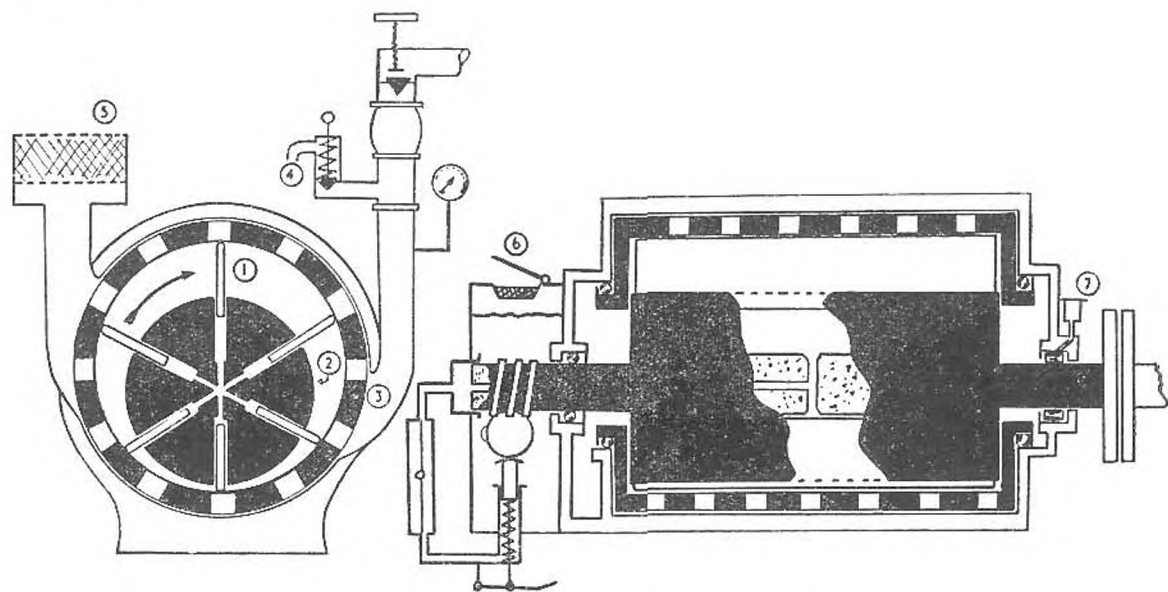

Fig. 22. L.P. blower—method of air blowing and lubrication
L.P. BLOWER (Refer to *Fig. 22*)